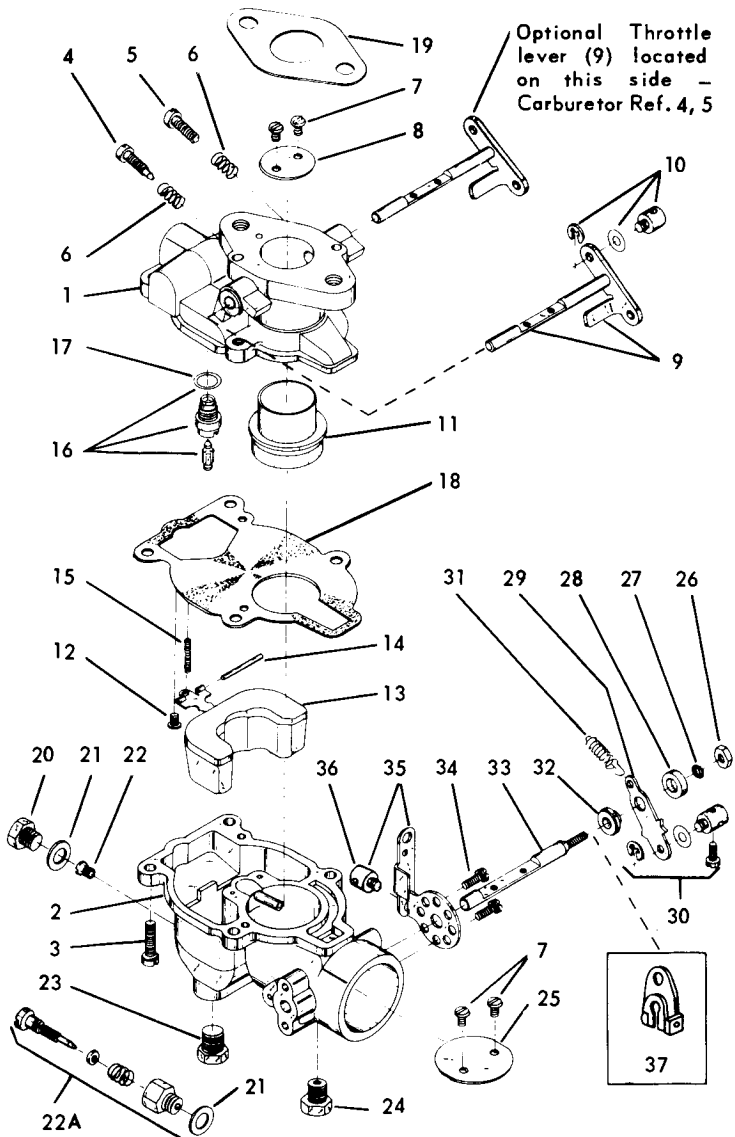

Fig. 3 EXPLODED VIEW
Turn Idle speed screw (5), Fig. 3, in until throttle valve is slightly open. With engine warmed up and running, turn adjusting screw in or out as required to obtain desired low idle speed (1000 to 1200 r.p.m.).
The Main Metering Jet (4), for high speed operation is fixed (not adjustable), as standard equipment, and used in the majority of engine applications. However, an Adjustable Jet carburetor is available, and the High Speed Adjustment is made by means of the Needle Assembly, Item 22A of Fig. 3, in the following manner: